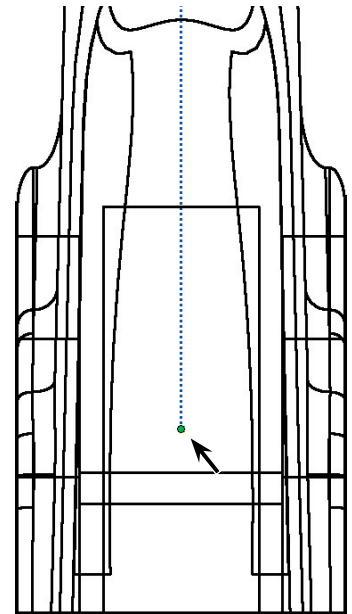

Fig. 41
Step 9. Scroll down to the rear axle hole, **Fig. 41**. To scroll hold down **Ctrl** and press up arrow key.
Step 11. Add a point for the rear eye screw. Click to place the hole approximately in the center of the body just above rear axle hole, **Fig. 41**.
Step 13. Grab the point in the drawing and drag to activate the inferencing line, the dotted line that appears. Move the point to the inferencing line to align point with the center of the body, **Fig. 41**. Click OK  in the Point Property Manager.